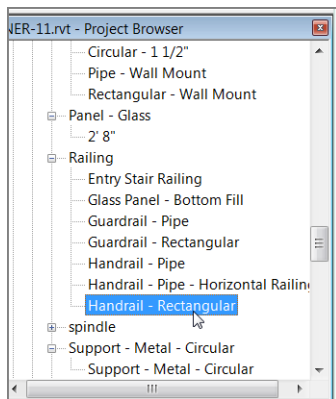

FIGURE 10.58: The railing family called Handrail - Rectangular
1. In the Project Browser, find the Families category and expand it, as shown in Figure 10.58.
3. Find Handrail - Rectangular, and double-click it (see Figure 10.58).